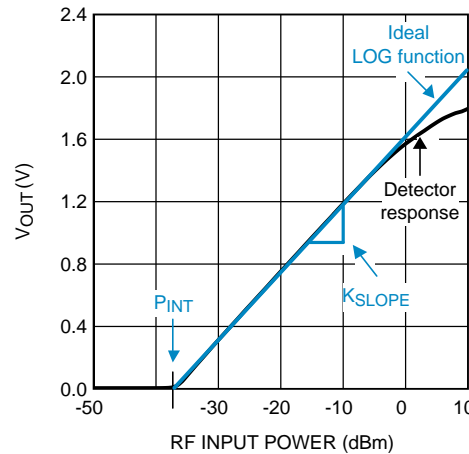

Figure 45. Ideal Logarithmic Response
- P_{INT} is the power level in dBm at which the line intercepts $V_{OUT} = 0$ V (see Figure 45). (9)